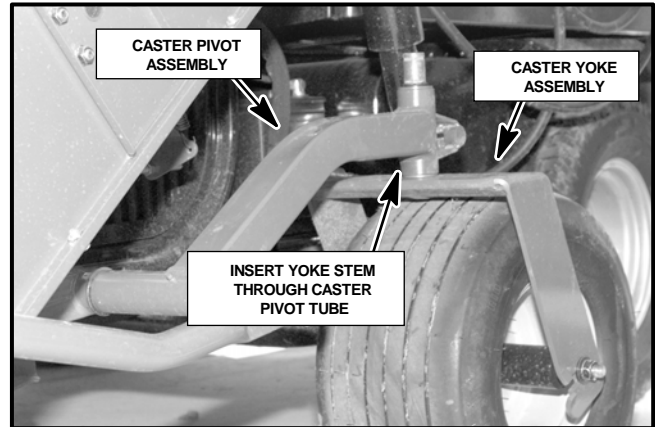

Figure 19
1. Locate the caster (yoke) assembly (Part No. 890118) from the accessory kit. Face the opening of the slots at the bottom of the yoke towards the front of the vehicle and insert the yoke stem into the mounting tube at the end of the caster pivot assembly (See Fig. 19). Secure using one (1) lock ring (Part No. 548349). Carefully lower the caster and yoke assembly allowing the yoke to rest on the floor.